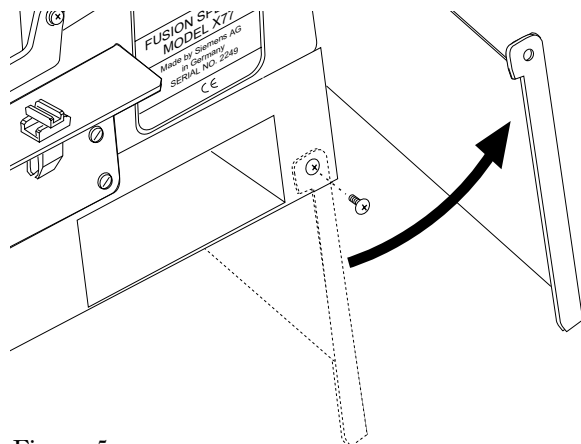

Figure 5
5.4 If you will be changing batteries while the splicer is placed in the platform, remove the tilting stand at this time (Figure 5):